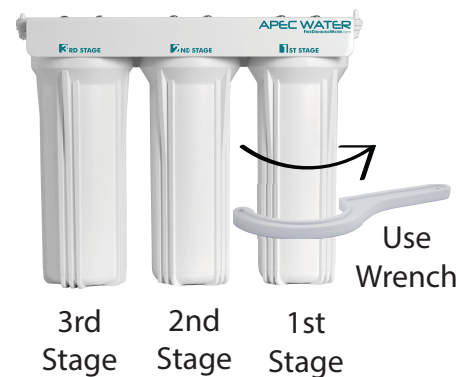

Fig. 4
3. **See Fig. 4** Use the wrench provided to completely tighten the housing starting from 1st-stage. Repeat this step for the 2nd stage housing in the middle, and for the 3rd stage housing on right.
3. **Recommend Connection For Flex Line Riser:** See **Fig. 6A**. Loosen nut and separate cold water riser tube from shut off valve. Gently bend riser tube so that the Feed Water Adapter (**Fig 4**) fits onto the shut off valve. If your riser tube has no built-in washer, then fit the cone-shaped washer provided onto the riser tube. Connect the riser tube, feed water adapter, and shut off valve together and **tighten**.